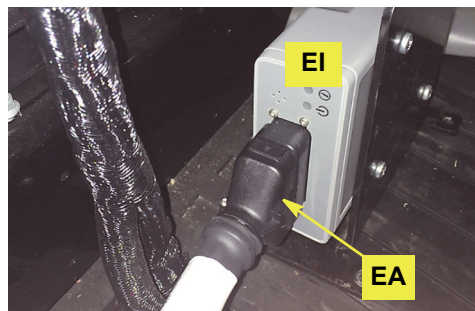

Figure 2a: Connecting ECU main cable
- b. Connect cable **EA** to the ECU **EI** (Figure 2a).